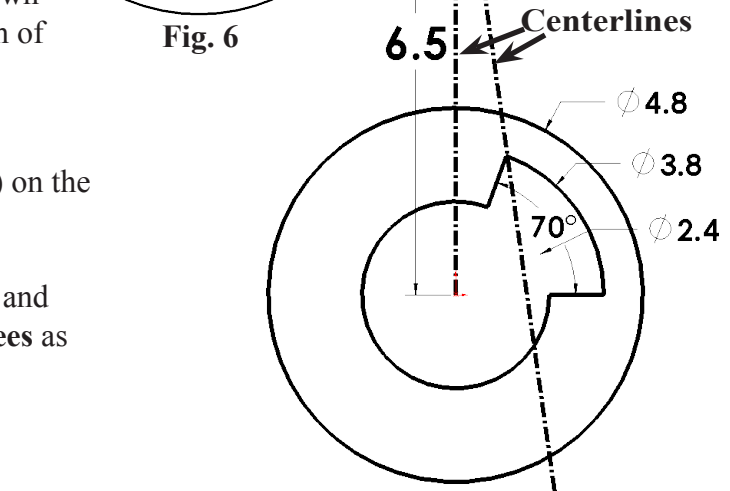

Fig. 7
Step 1. Click **Centerline**  in the **Line flyout**  (S) on the Sketch toolbar.
Step 2. Draw a vertical centerline starting from the Origin  and extending out past the top of large circle, Fig 7. Continue a second centerline back down at angle and extending outside bottom of large circle as shown in Fig 7.
Step 3. Click **Smart Dimension**  (S) on the Sketch toolbar.
Step 4. Dimension the vertical centerline **6.5** and the angle between centerlines **8 degrees** as shown in Fig. 7.